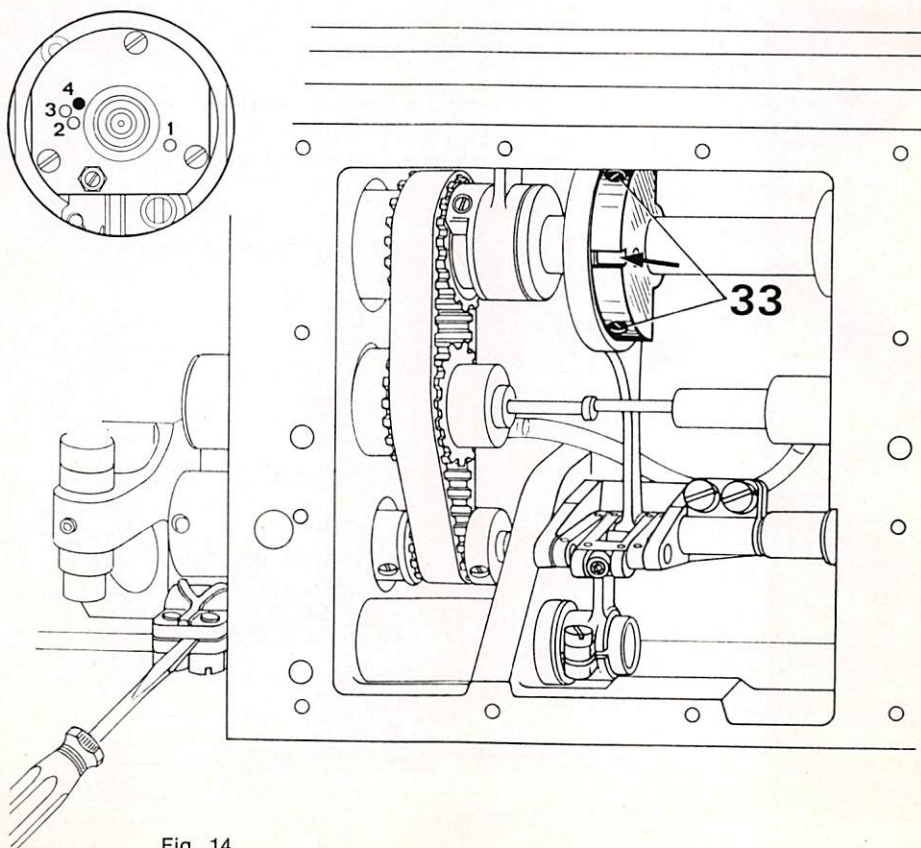

Fig. 14
11. Adjusting the Feed Driving Motion (Fig. 14)